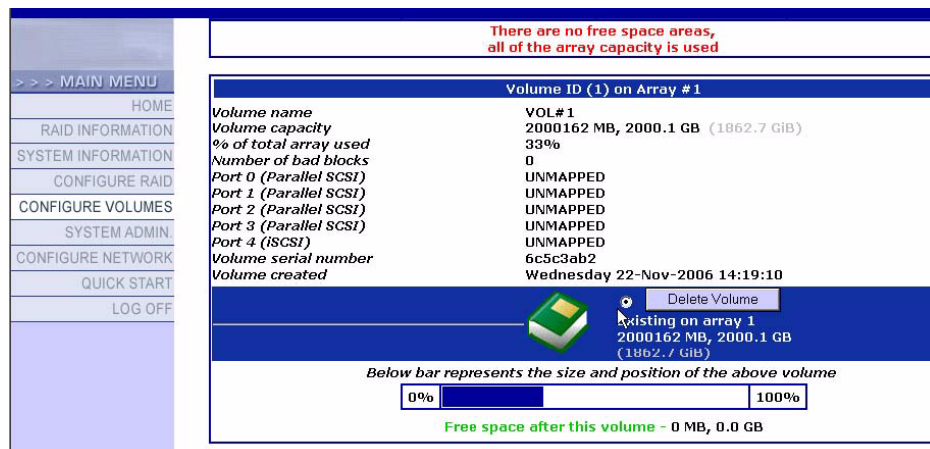

Figure 9
- c. Place a dot next to Delete Volume. (See Figure 9)